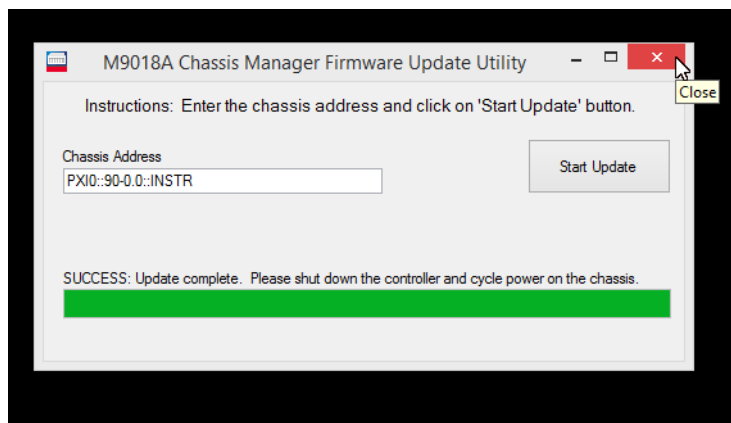

Figure 5 Chassis Firmware Installation Success Message
- 11 It should take approximately 10 seconds to finish the update. It will display a **SUCCESS** message as shown in Figure 5 below. You may now exit the window.